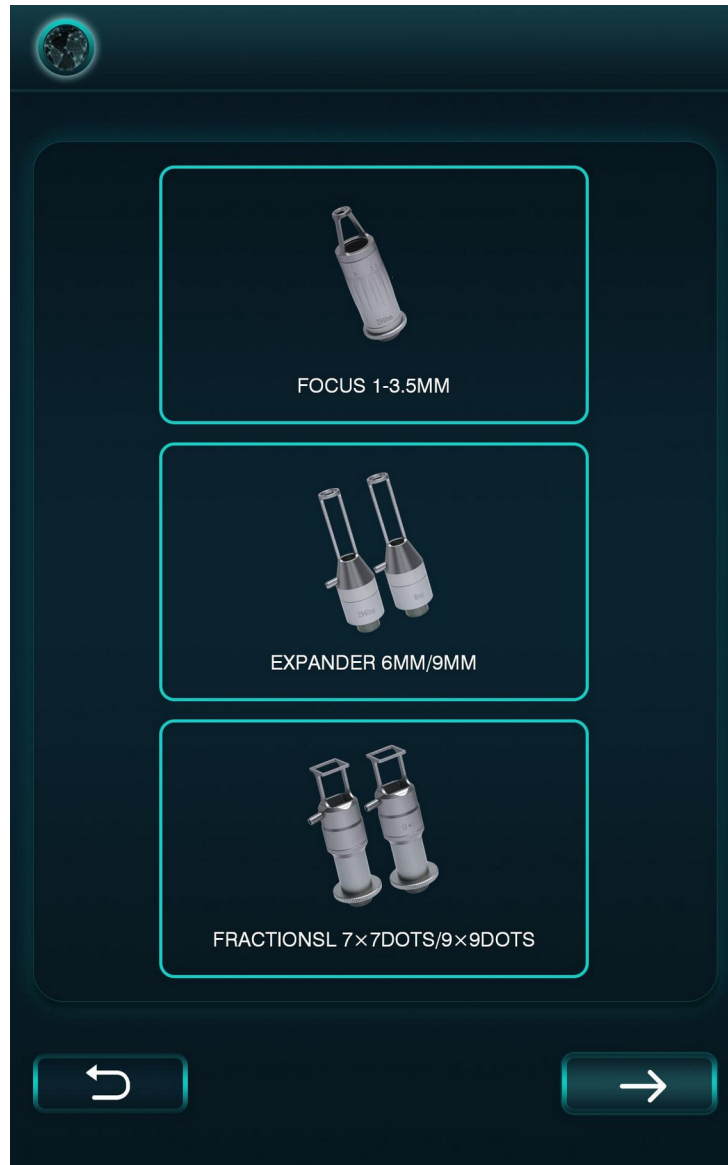

Figure 5.51
3. Treatment mode & Parameter setting windows include the following parameter adjustments: (See Figure 5.51).